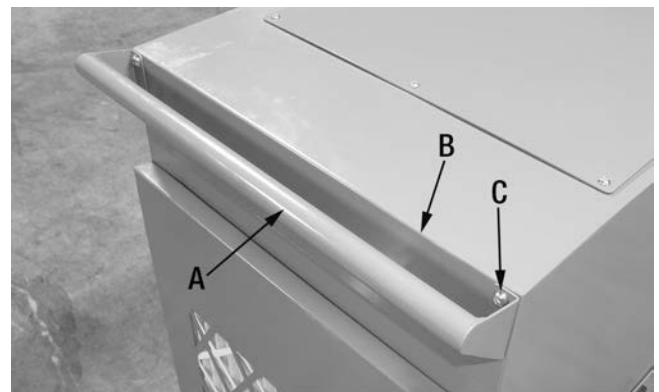

FIGURE 5
- 1) Install the handle (A) Fig.5 to the cabinet (B) as shown, install the handle using 4 large round head allen screws (C).